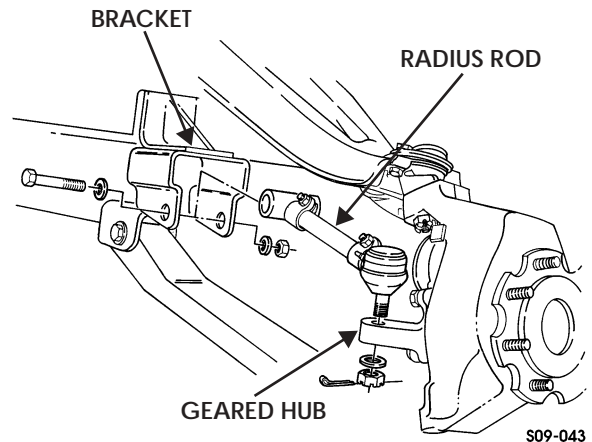

Figure 9-4: Radius Rod
2. Remove cotter pin, slotted nut, and washer securing radius rod to geared hub. Discard cotter pin (Figure 9-4).
1. Install radius rod on bracket with washer, capscrew, washer, and locknut. Tighten locknut to 260 lb-ft (353 N•m) (Figure 9-4).